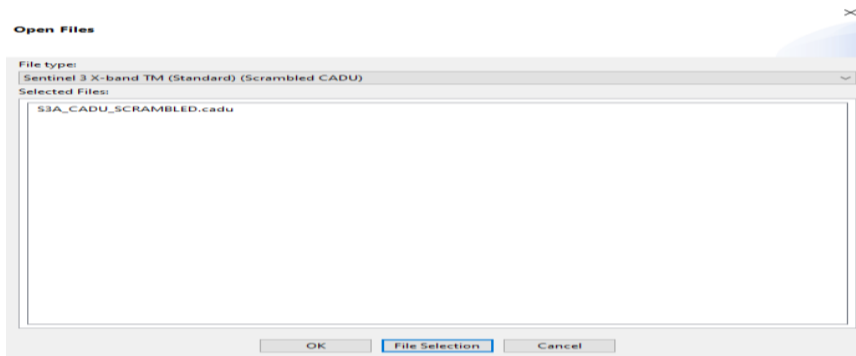

Figure 28: Open file dialog (with types of files)
1. Launch the Open file dialog through menu “File” → “Open” (Figure 28)